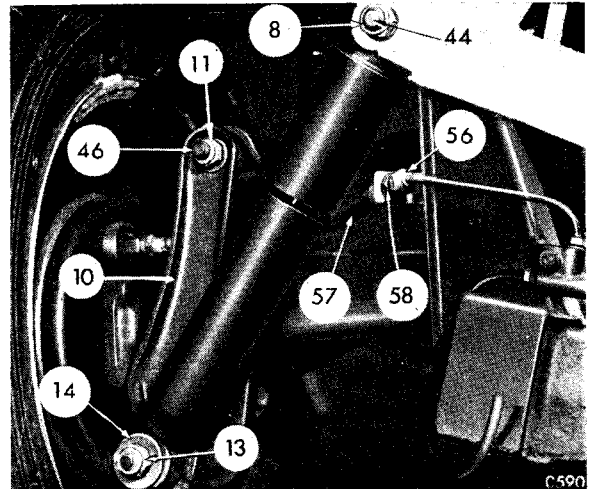

Fig. 20. Vertical link, brake pipe and damper attachments
1. Disconnect each brake hose from its steel pipe and chassis bracket by unscrewing the union nut (56), Fig. 20, and removing the nut (58) whilst holding the flexible pipe (57).
4. Slacken the damper upper attachment bolt (44), Fig. 20, remove the nyloc nut (13) and washer (14) from the lower attachment and pull the damper (9) clear of its lower fulcrum. Remove the jack from the vertical link.